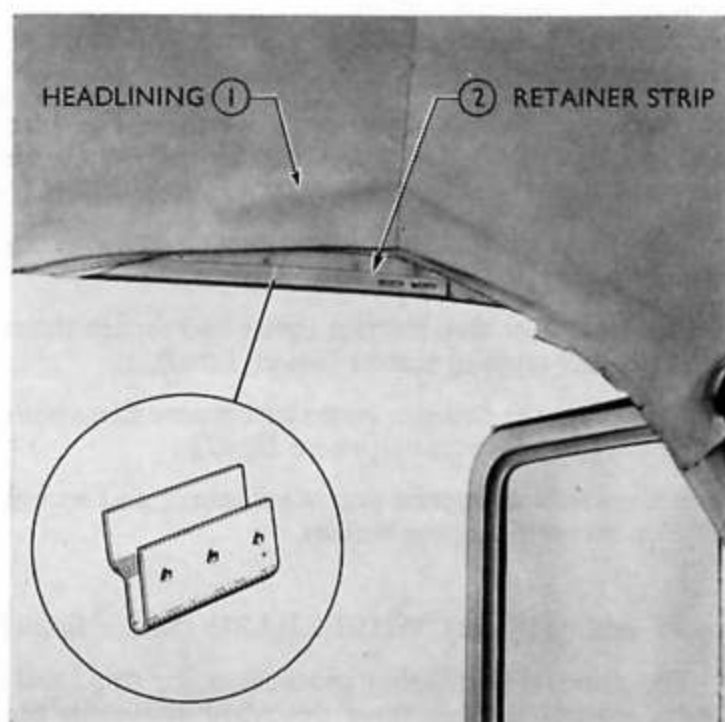

Fig. 20
6. Insert between the body and the headlining toothed retainer strips, a thin metal blade with all sharp edges removed and gently prise the retainer strips away from the body. (A blunt paint scraper can be used for this operation.) The tool can then be pushed between the retainer strip and body, enabling the headlining to be carefully lifted from the retaining teeth on the back face of the retainer strips (see Fig. 20).
To avoid damage to the headlining material during this delicate operation, commence to lift the material from the retainer teeth in a location where a sleeve is stitched to the back face. This location can be determined by the stitch joint between the panels of the headlining (see Fig. 20) in this manner, detach the headlining along three edges.
5. Trim off the surplus material with sharp scissors leaving approximately 5 cm. (2 in.) of material hanging below the retainer strips. Using the tool previously described (a blunt paint scraper) gently push the overhanging material up behind the toothed retainer strips, removing the clips as the operation proceeds. (To avoid possibility of damage to the headlining material this should be commenced at the location where a cotton sleeve is stitched to the back face of the headlining material.) (See Fig. 20). If additional stress is required at any point to remove transverse creases this again should be done by pushing on the headlining material in a position where a cotton sleeve is stitched to the back face of the material.